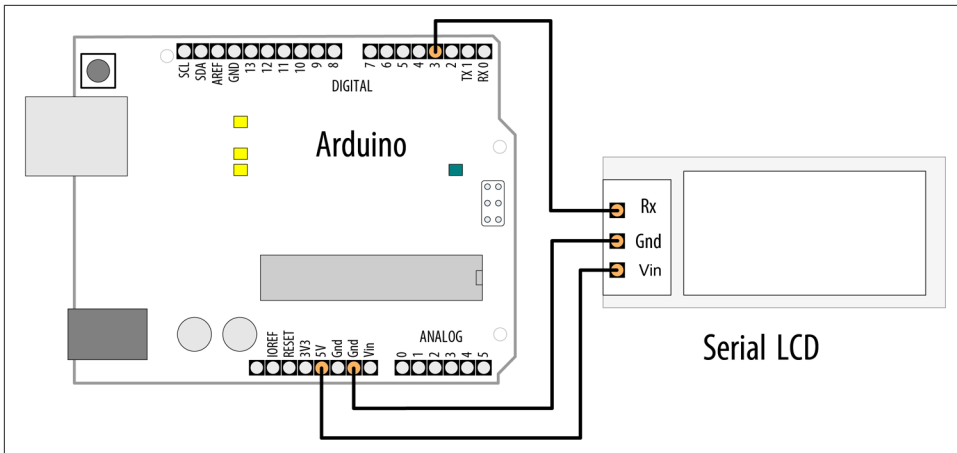

Figure 4-6. Connecting a serial device to a “soft” serial port
Select two available digital pins, one each for transmit and receive, and connect your serial device to them. Connect the device’s transmit line to the receive pin and the receive line to the transmit pin. For scenarios where you are only sending data, such as when displaying characters on a Serial LCD display, you only need to wire up the transmit (TX) pin to the device’s receive (RX) pin, as shown in Figure 4-6, where we have selected pin 3 as the transmit pin.
This sketch assumes that a serial LCD has been connected to pin 3 as shown in Figure 4-6, and that a serial console is connected to the built-in port. The loop will repeatedly display the same message on each:
To build your software serial port, you select a pair of pins that will act as the port's transmit and receive lines in much the same way that a hardware serial port uses its assigned pins. In Figure 4-6, pins 3 and 2 are shown, but any available digital pins can be used, with some exceptions for certain boards. It's wise to avoid using 0 and 1, because these are already being driven by the built-in port.